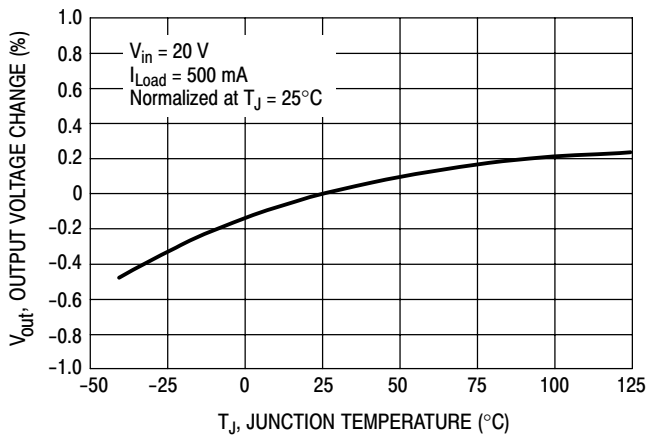

Figure 2. Normalized Output Voltage
1. Programming Output Voltage To select the right programming resistor R1 and R2 value (see Figure 2) use the following formula: $V_{out} = V_{ref} \left( 1.0 + \frac{R2}{R1} \right) \quad \text{where } V_{ref} = 1.23 \text{ V}$ Resistor R1 can be between 1.0 k and 5.0 k $\Omega$ . (For best temperature coefficient and stability with time, use 1% metal film resistors). $R2 = R1 \left( \frac{V_{out}}{V_{ref}} - 1.0 \right)$	1. Programming Output Voltage (selecting R1 and R2) Select R1 and R2: $V_{out} = 1.23 \left( 1.0 + \frac{R2}{R1} \right) \quad \text{Select } R1 = 1.8 \text{ k}\Omega$ $R2 = R1 \left( \frac{V_{out}}{V_{ref}} - 1.0 \right) = 1.8 \text{ k} \left( \frac{8.0 \text{ V}}{1.23 \text{ V}} - 1.0 \right)$ $R2 = 9.91 \text{ k}\Omega, \text{ choose a } 9.88 \text{ k metal film resistor.}$